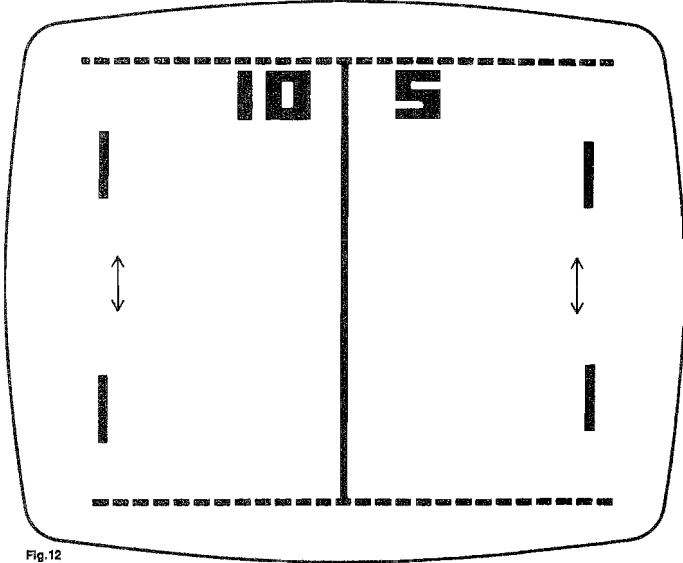

Fig.12
Composite Picture Data (28) This positive going output is the sum of the picture data for the bats, ball, field and score and can be used in lieu of the data on pins 9, 10 and 24. This signal and Sync are the only signals required for black and white operation (see Fig. 12)